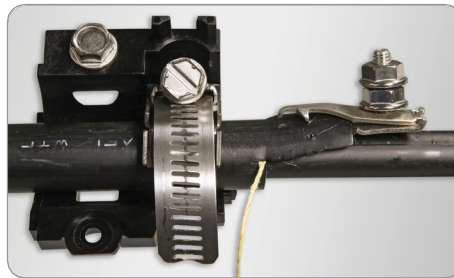

Figure 19
3. Install CAU, as outlined in the previous section above. **(Figure 19)**